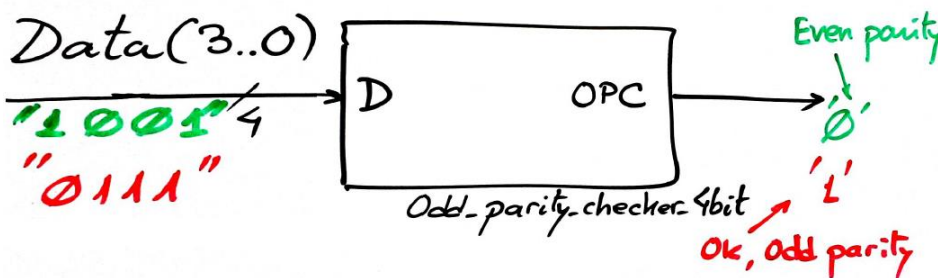

Fig. 7
3. Infer the truth table of a 4-bit odd parity checker combinational circuit represented in Fig. 7 so that when the input data has an odd number of '1', the output OPC = '1'. Explain how several chips of the same kind can be connected to produce the *Odd_parity_checker_9bit* required in the project. (1p)